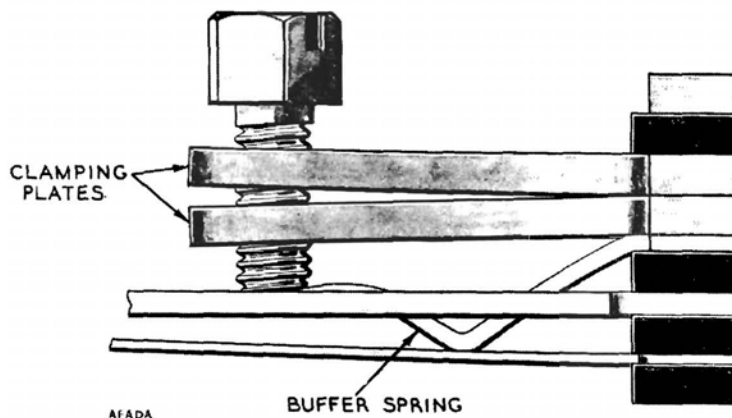

FIG. 10
5. Buffer-spring adjusting screws.—If it is necessary to tighten the friction locking of a buffer-spring adjusting screw, the screw should be withdrawn until its thread is free of its lower clamping plate. The ends of the two clamping plates should then be gently sprung open and held in this position until the screw is re-inserted. At least one thread of the screw should be visible between the two clamping plates (see Fig. 10). The inward tension of the clamping plates should secure the screw so that it is difficult to turn it with the fingers.